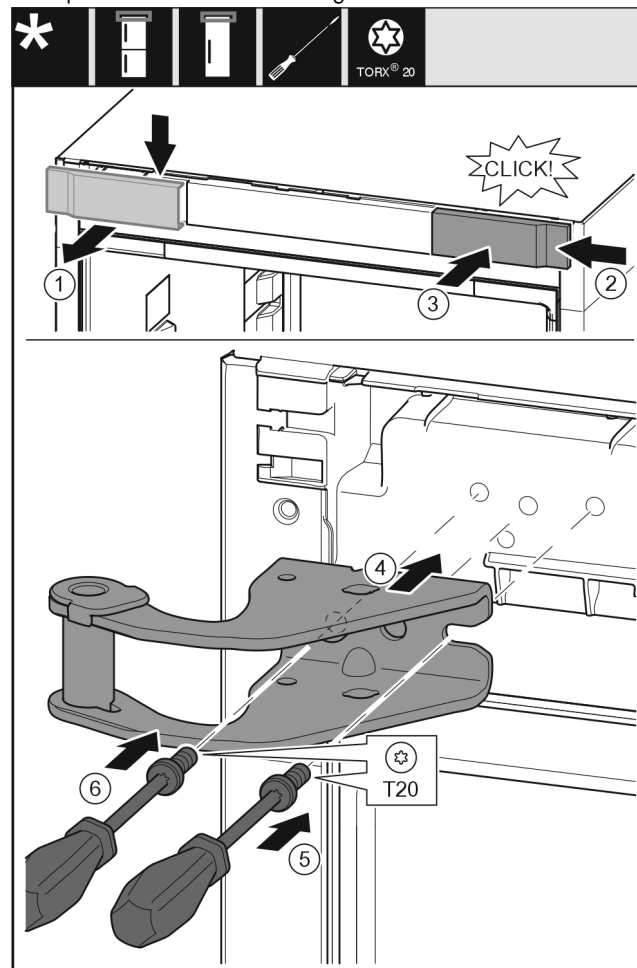

Fig. 12
- Take off the cover from above to the front. Fig. 12 (1)
- Rotate the cover 180° and clip onto the other side from the right. Fig. 12 (2)
- Latch the cover into place. Fig. 12 (3)
- Position the upper bearing bracket. Fig. 12 (4)
- Insert the screw with a T20 screwdriver and tighten it. Fig. 12 (5)
- Insert the screw with a T20 screwdriver and tighten it. Fig. 12 (6)